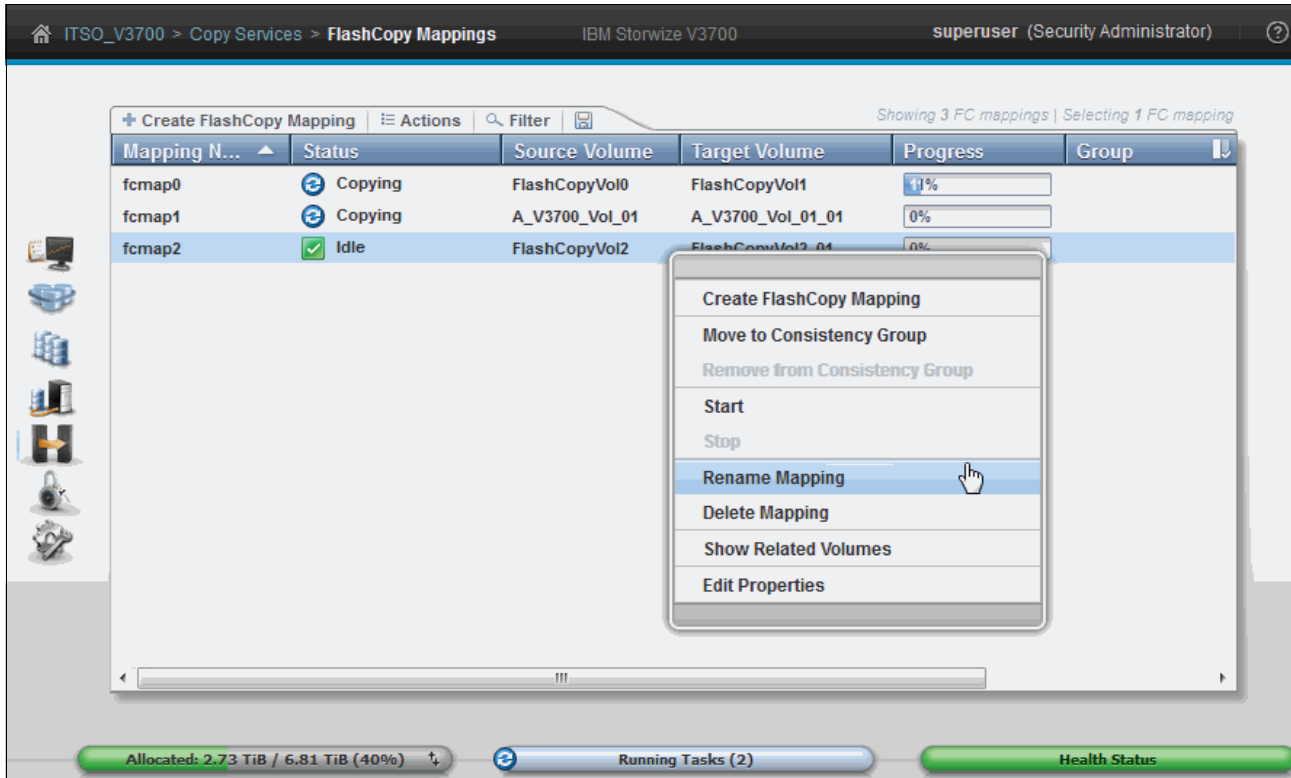

Figure 10-34 Rename a FlashCopy mapping
2. Click **Rename Mapping** in the **Actions** menu, as shown in Figure 10-34.